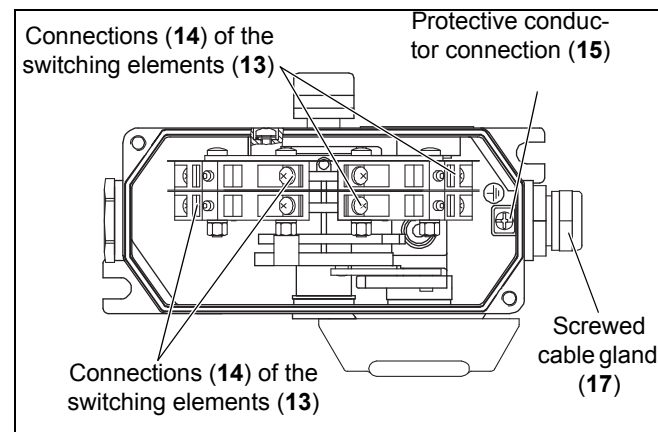

Fig. 5-14: Switch and protective conductor connections
3. Loosen the potential equalization connections (26) on the cover (12) and the enclosure (25) (see fig. 5-14).